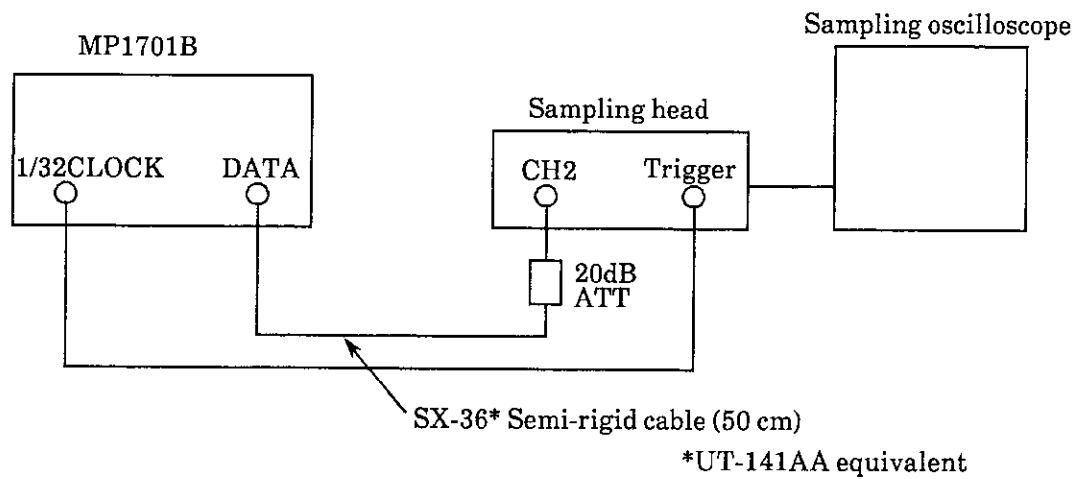

Fig. 7-5 Setup
(2) Set up
The setup is the same as that in paragraph 7.5.3 (2) and is shown in Fig. 7-5.
(3) Procedure